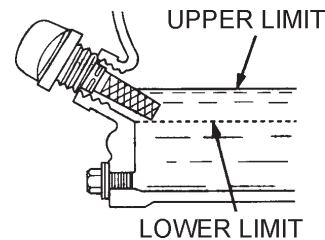

Figure 11. Engine Oil Dipstick (Removal)
4. If the oil level is low (Figure 11), fill to the edge of the oil filler hole with the recommended oil type (Table 6). Maximum oil capacity is 1.16 quarts (1.1 liters).